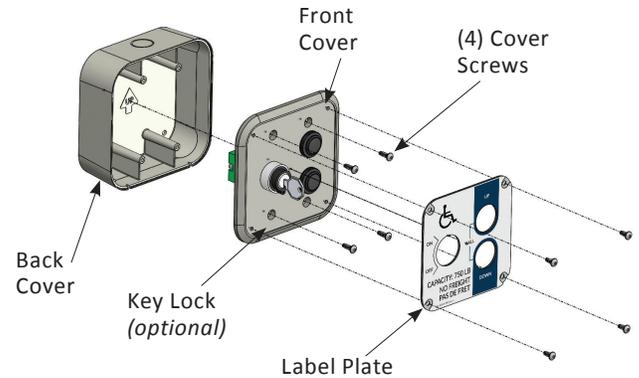

Figure 4-10
1. Remove four (4) label plate screws and label plate. *See Figure 4-10.*